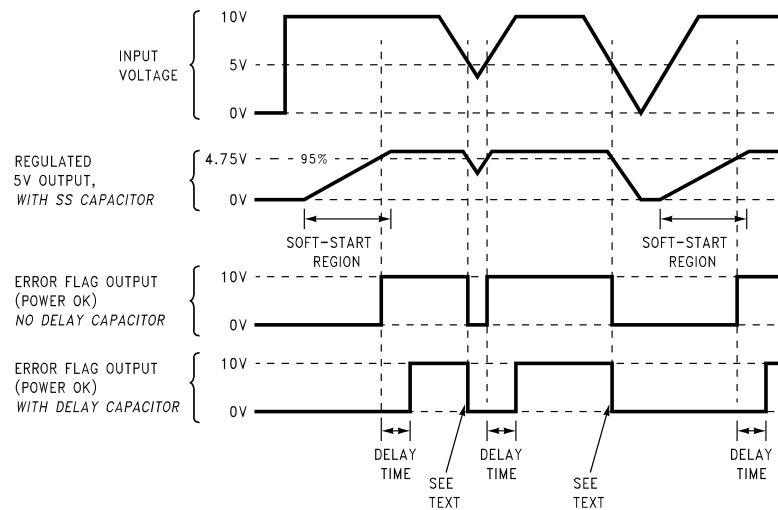

FIGURE 14. Timing Diagram for 5V Output
**CDELAY** —Provides delay for the error flag output. See the upper curve in Figure 13, and also refer to timing diagrams in Figure 14. A capacitor on this pin provides a time delay between the time the regulated output voltage (when it is increasing in value) reaches 95% of the nominal output voltage, and the time the error flag output goes high. A 3  $\mu$ A constant current from the delay pin charges the delay capacitor resulting in a voltage ramp. When this voltage reaches a threshold of approximately 1.3V, the open collector error flag output (or power OK) goes high. This signal can be used to indicate that the regulated output has reached the correct voltage and has stabilized.